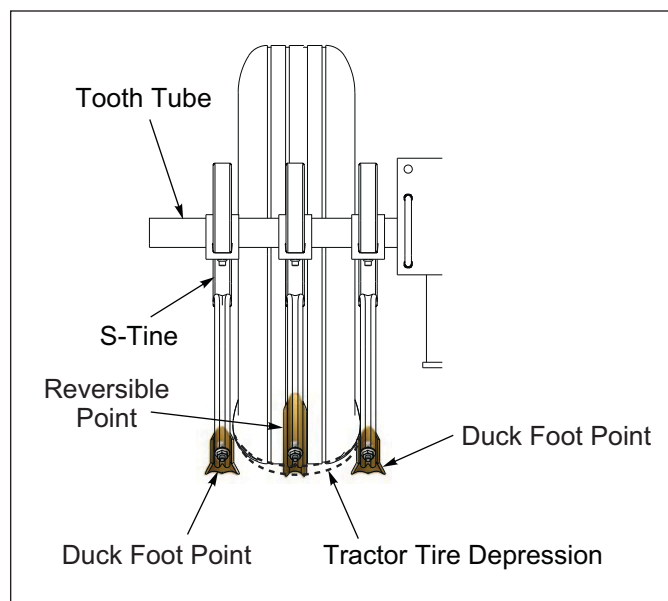

Figure 2-67: S-Tine Point Position
4. Assemble the Points to the S-Tines. The suggested pattern is to assemble the Reversible Point onto the center S-Tine and a Duck Foot Point on the S-Tine on either side of the center S-Tine with 3/8-16 x 1-3/4 Plow Bolt and Flanged Locknut. **See Figure 2-67.**